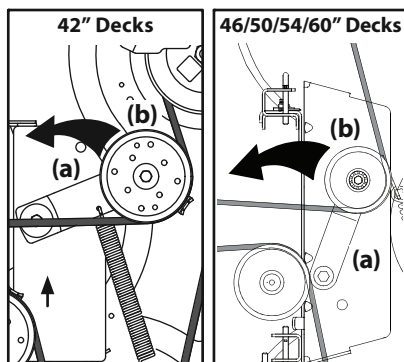

Figure 38
- b. Working from the middle of the tractor, pivot the idler bracket (a) and movable idler pulley (b) rearward just far enough to lift the belt up and over the spindle pulley. See Figure 38.